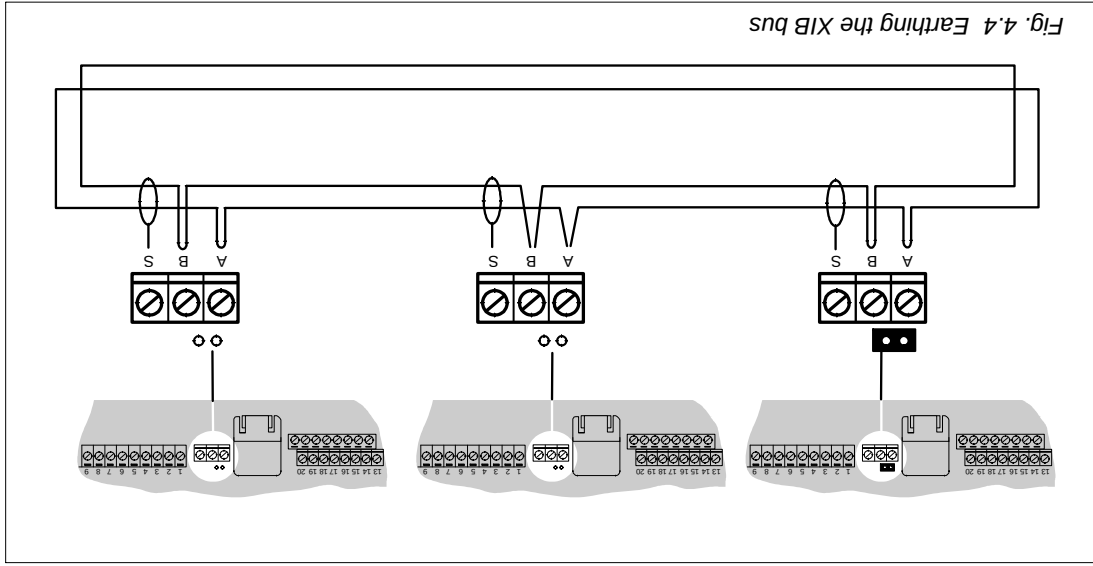

Fig. 4.4 Earthing the XIB bus
2. Connect the XIB bus to earth by fitting the jumper over the pins above terminals A and B (see fig. 4.4).